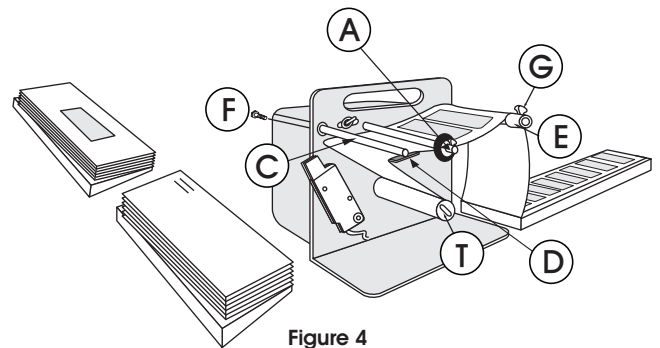

Figure 4
12. Unit will dispense fan-fold computer print-out label forms within its width limitation. Place print-out to rear of dispenser with label side up to feed bottom of print-out first. Last label printed is first label removed. (See Figure 4) Print-out can feed over side collar.